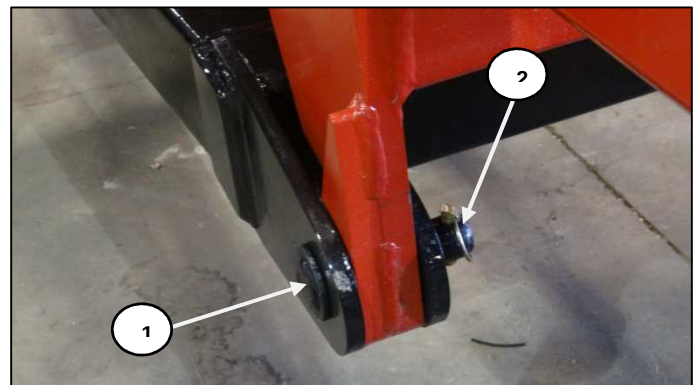

Figure 8
Use two hitch pins (Item1, Figure 8) and pin hitch lock (item 2) to attach axle front side end to the hitch plates.